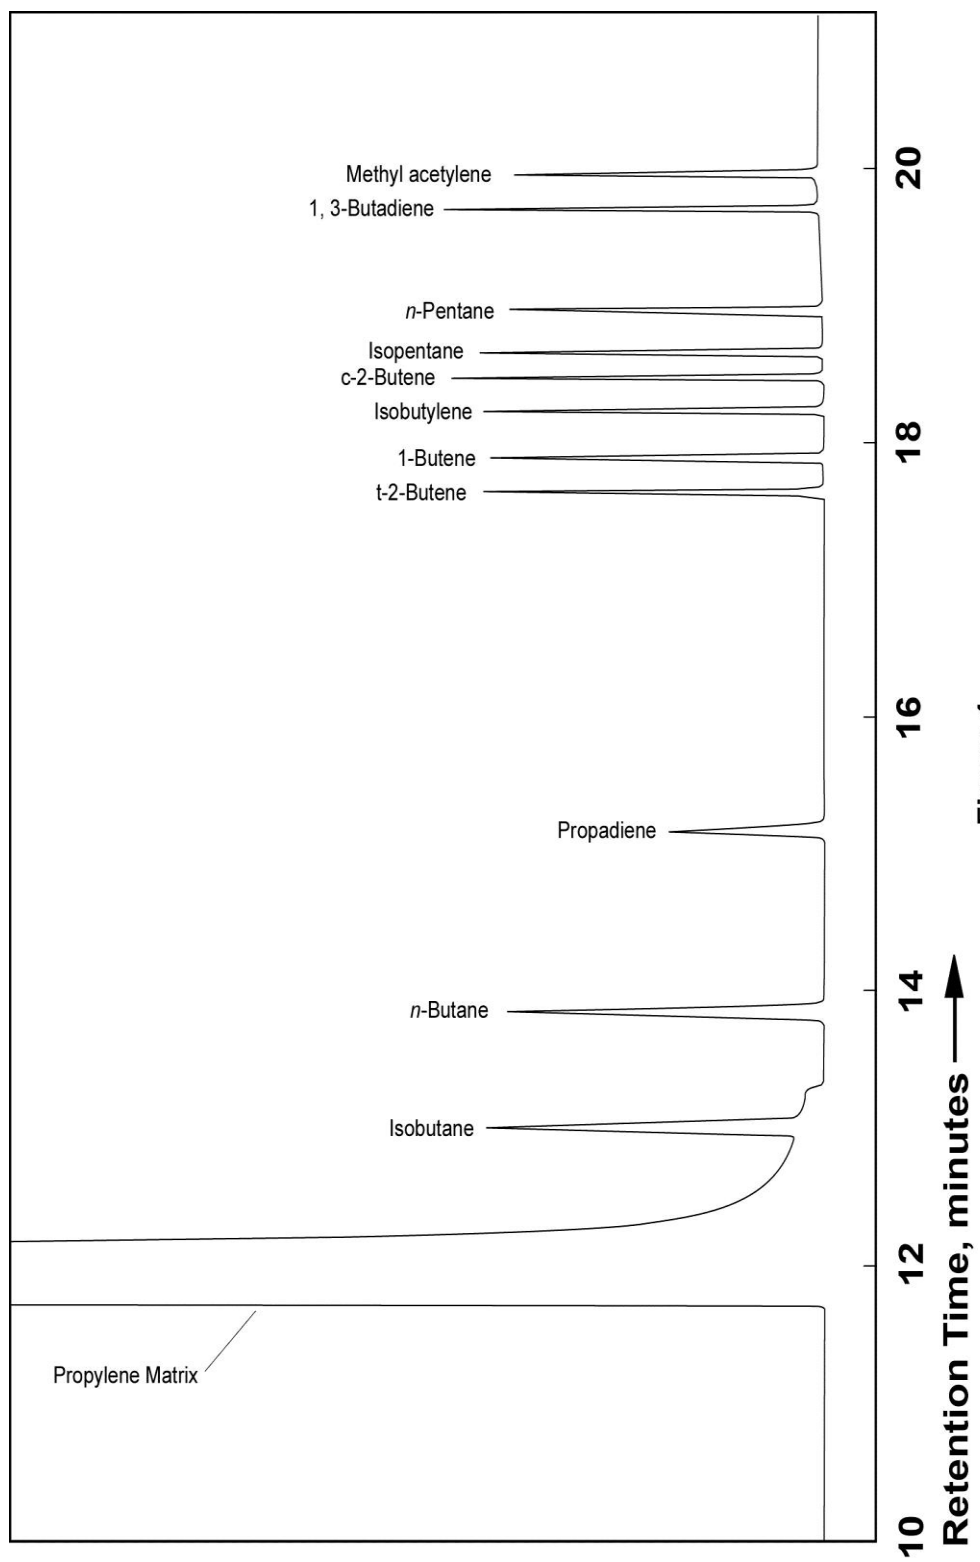

Figure 4
16. Identify each component by comparing the resultant chromatogram with the Typical Chromatogram as shown in Figure 4.